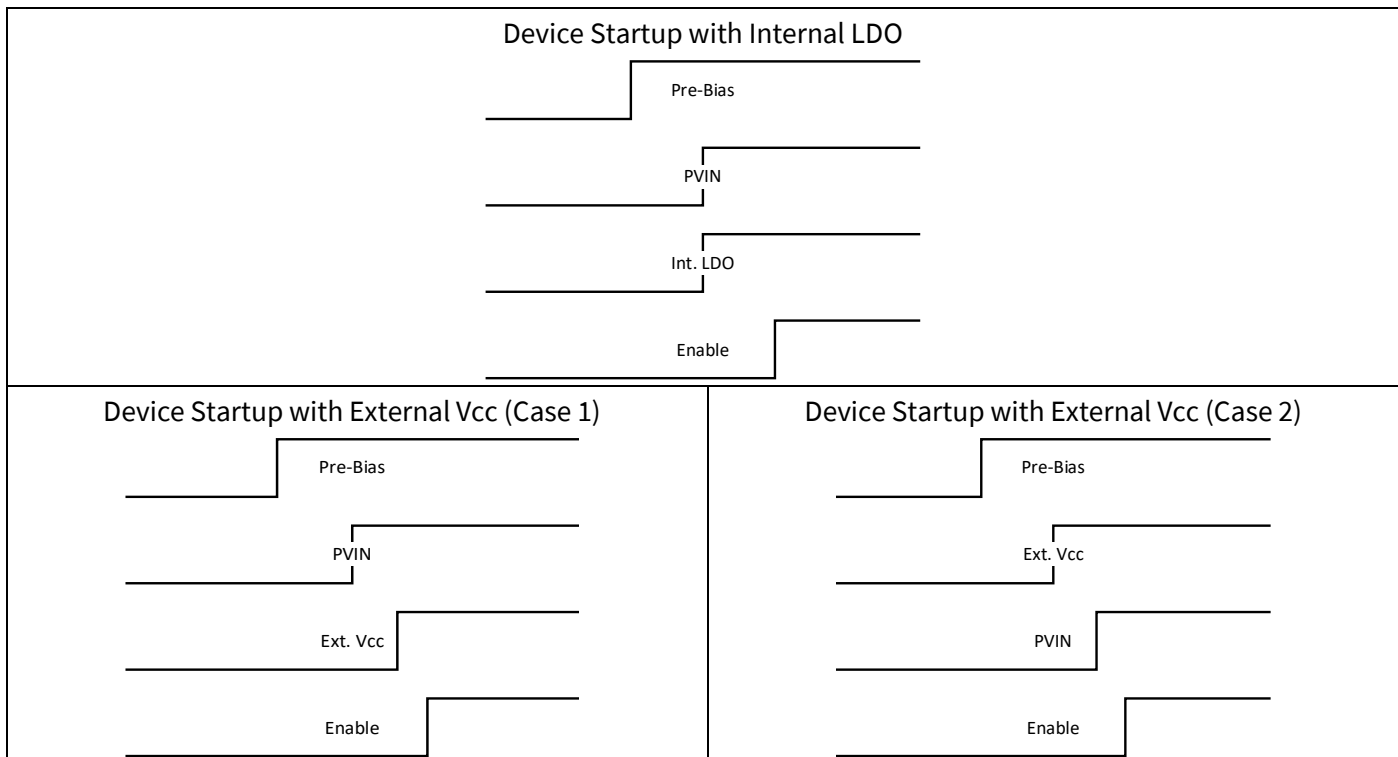

Figure 17 Device power-on sequence.
TDA38740/725 is ready to communicate as soon as Vcc is above the threshold of 3.7 V. The device starts switching once the Enable signal is pulled high. Based on whether Vcc is supplied externally or an internal LDO is used, the recommended power-up sequences are shown in Figure 17.
The TDA38740/725 is able to start up into a pre-charged output without causing oscillations and disturbances of the output voltage. When TDA38740/725 starts up with a pre-biased output voltage, both control FET and Sync FET are kept off until the internal soft-start signal exceeds the FB voltage. The sequencing recommendation with pre-bias is shown in Figure 17.
- The Startup sequence should follow the sequencing shown in Figure 17